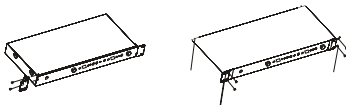

Fig.5
2. The receiver can be mounted in a EIA standard 19 inch (482.6mm) rack. Use the supplied rack ears as per Fig. 5.